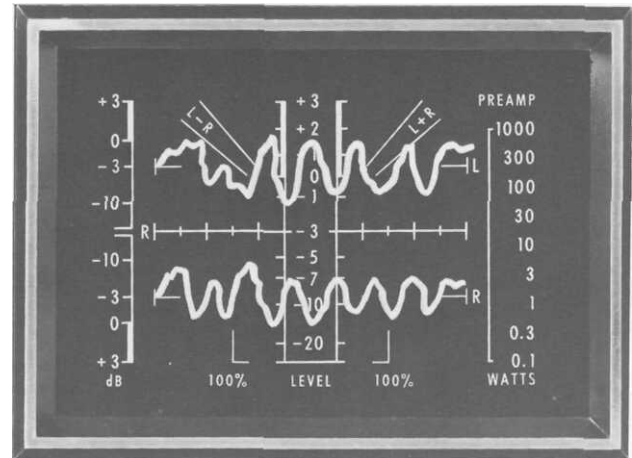

FIG. 11 DUAL TRACE DISPLAY
17. Adjust top panel TRACE SEPARATION to obtain the pattern shown in Figure 11.